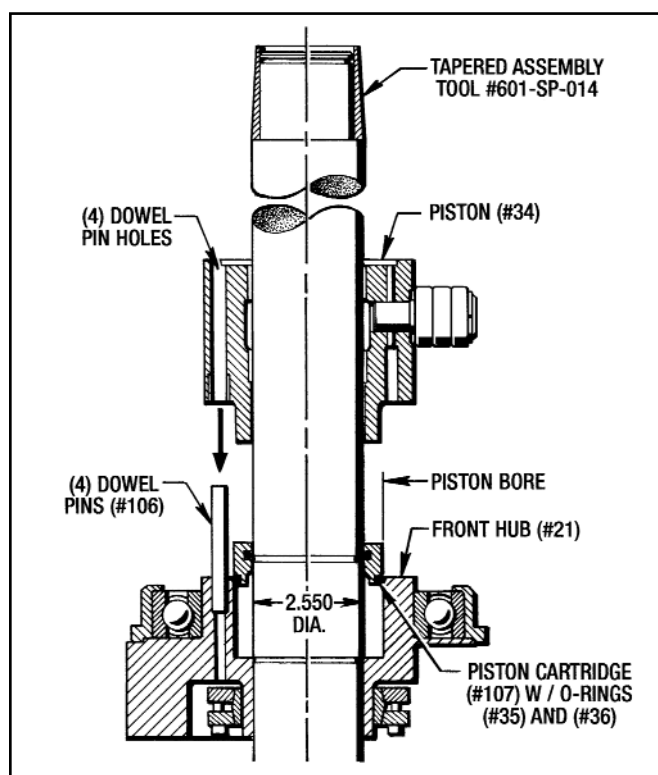

Figure 7.9 - Installing Piston
2. Apply a liberal amount of **Grease** to the piston bore in the Front Hub (#21) and the 2.550" shaft diameter. (See Figure 7.9)
4. Carefully slide the Piston Cartridge (#107) down and over the shaft until it rests on the Front Hub (#21) as shown in Figure 7.9.
5. Lubricate the (4) Dowel Pins (#101), piston dowel holes and the rear face of the Piston Cartridge (#107) with a liberal amount of **Royal Purple Grease**. (See Figure 7.9)
6. Push the Piston Sub-Assembly down and over the Vibrator Shaft (#1) and onto the (4) Dowel Pins (#106). Tap with a soft hammer to make sure that the Piston Cartridge (#107) and Piston (#34) is firmly seated against each other in the Front Hub (#21) piston bore.